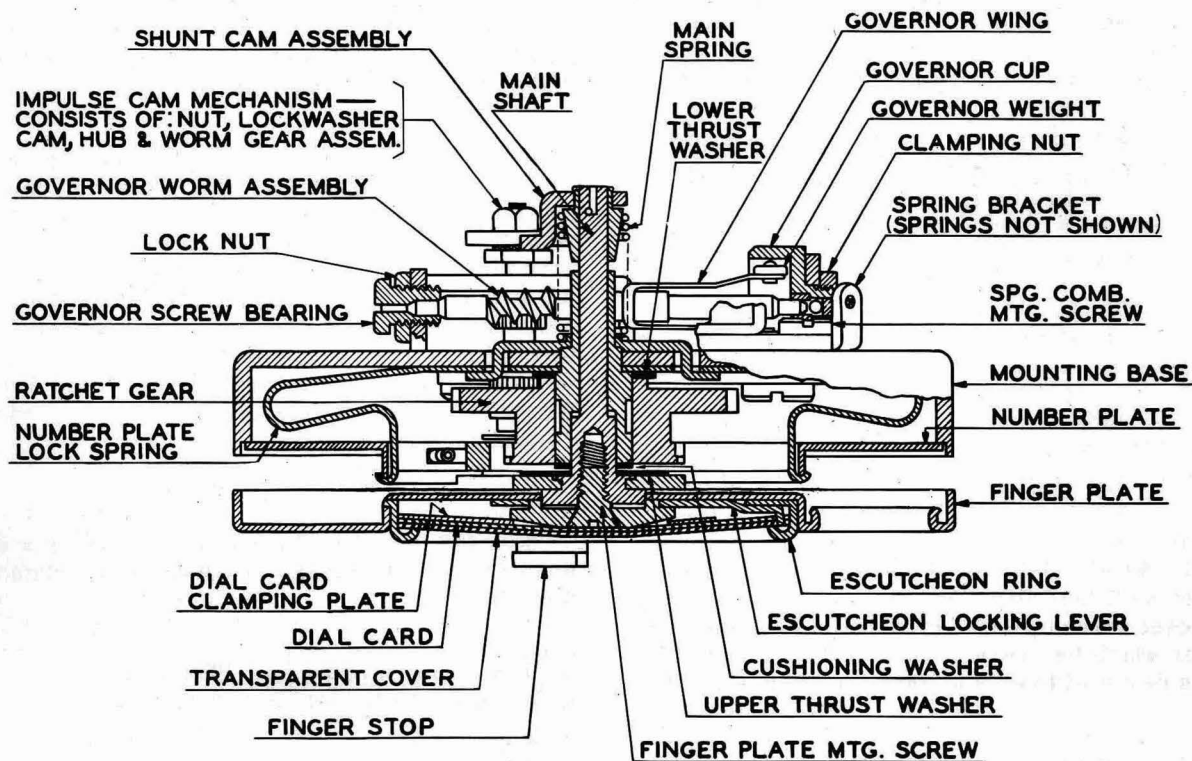

Fig. 12: Cross-Sectional View of Type 24A36 Dial
the main dial shaft. See figure 12. The lobe shaped impulse cam is mounted on the same shaft as the laminated gear.
To lubricate the main shaft and the main gear bearing which runs on a sleeve surrounding the main shaft (figure 12), it is necessary (1) to remove the dial escutcheon; (2) to remove the finger plate mounting screw. Place a drop of the correct lubricant (figure 14) in the hole. While the dial finger plate is off, lubricate other interior points as shown in figure 14.